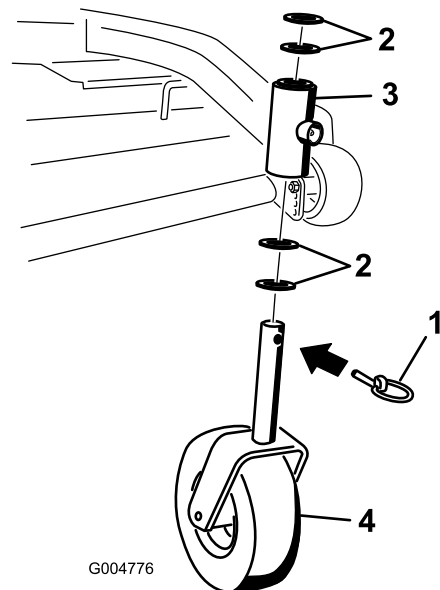

Figure 40
2. Remove the locking pin and spacer(s) from the top of the caster wheel fork (Figure 40).
6. Inspect the caster wheel fork for wear and replace if necessary (Figure 40).
7. Slide the caster wheel fork through the bushings in the mounting tube. Replace the spacer(s) onto the fork and secure with the retaining ring (Figure 40).